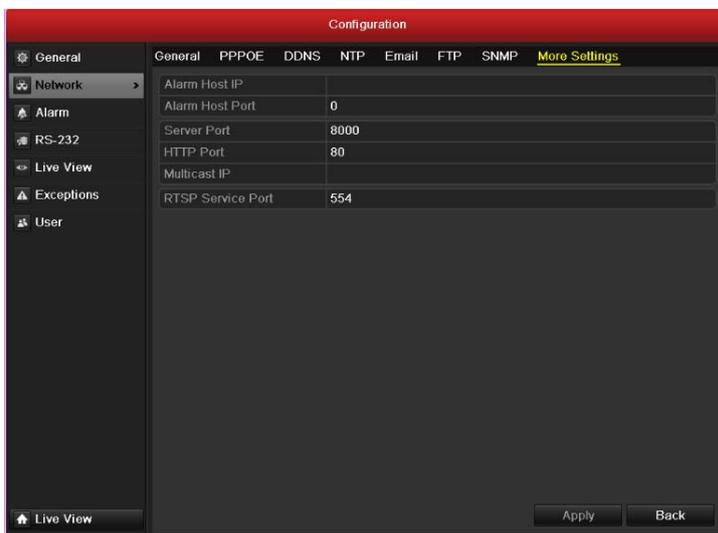

Figure 9.18 Host/Others Settings Menu
3. Enter new **Server Port** and **HTTP Port**, as shown in Figure 9.18.